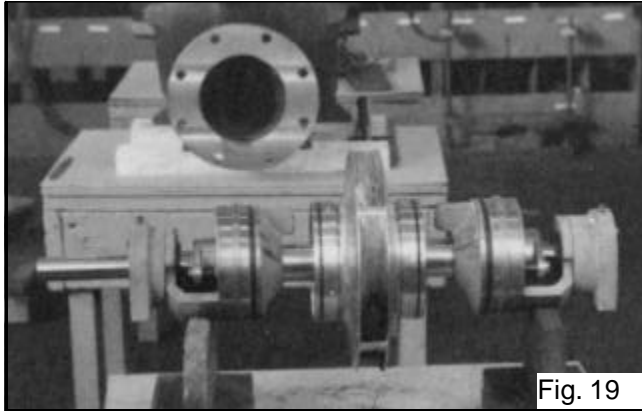

Fig. 19
- Tap the stuffing boxes with a soft-headed hammer to break the seal between the stuffing box and lower casing half, and lift the rotating element out of the lower casing. Rotating element may now be moved to a suitable working location. (See Fig. 19)